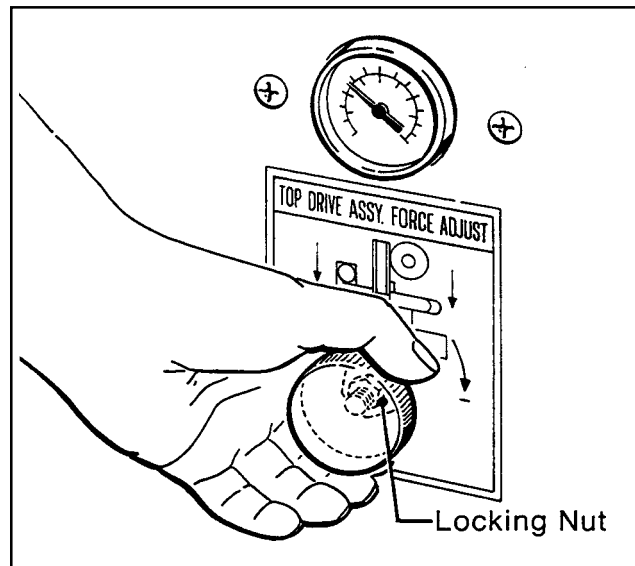

Figure 3-5 – Air Regulator/Gauge, Top Drive Assembly
- ⑦ **Air Pressure Regulator/Gauge, Top Drive Assembly Force Adjustment – Figure 3-5**
For boxes which are fully packed with products that support the top flaps, the adjustment of this regulator is not critical since the boxes can support the pressure of the upper frame (drive belts) at a wide range of regulator settings. However, if under-filled or fragile boxes are sealed, this regulator can be used to set the upper frame pressure to a minimum that is still adequate to positively convey the box and to prevent damage of boxes. The regulator setting can be locked by securing the lock nut on the regulator shaft as shown in Figure 3-5.